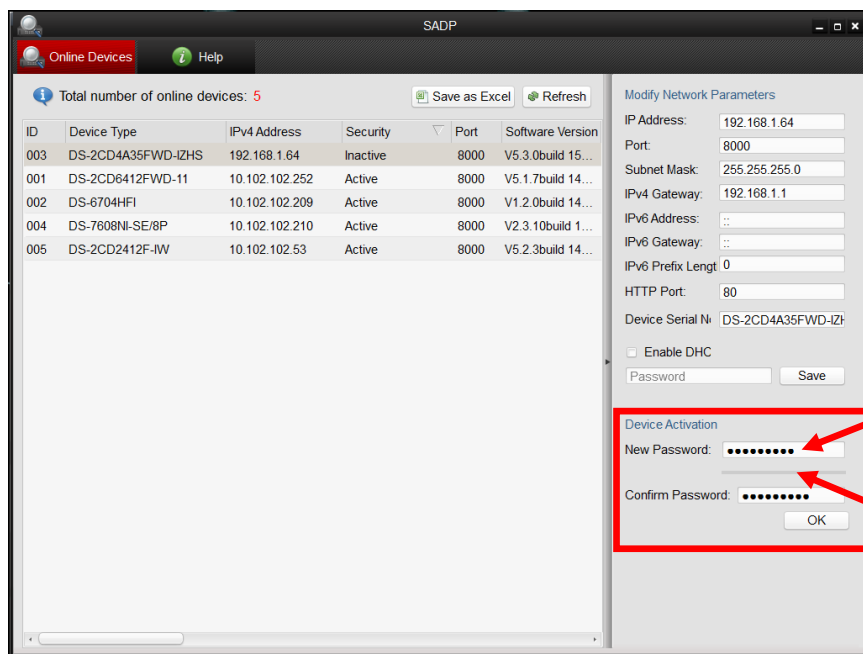

Figure 23 Password Field with "Risky" Unacceptable Password
2. If the DVR/NVR is “Inactive,” highlight the DVR/NVR and enter a new password into the “New Password” field on the bottom right of the screen (**Figure 23**). See “Password Strength Levels” table on page 37 for guidelines.
- The Activation Window will appear instead of the login page (**Figure 23**).